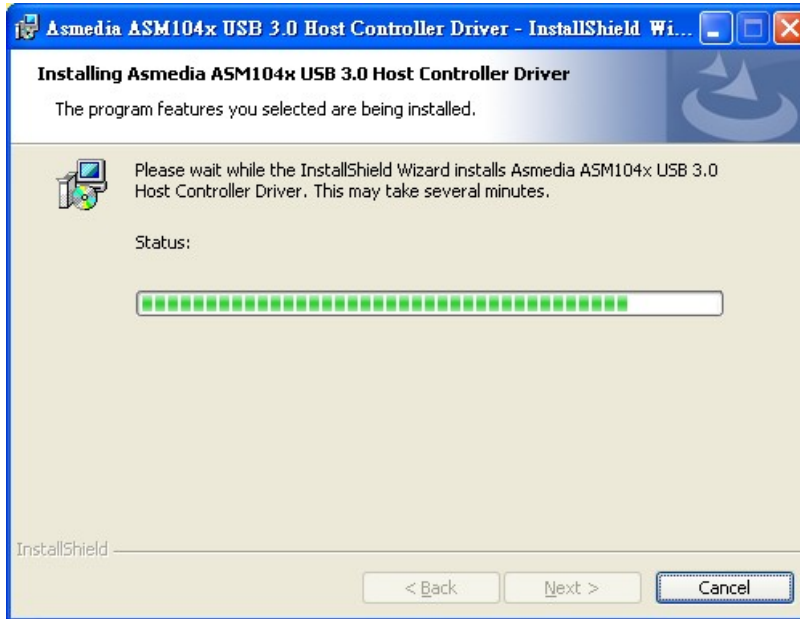

Figure 6-30: USB 3.0 Driver Installation Screen
Step 8: The Install screen appears and displays the progress of the installation (Figure 6-30).